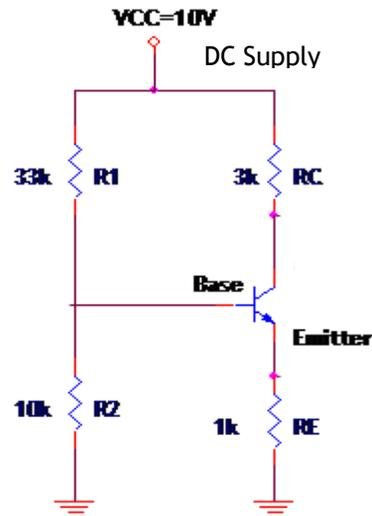

Fig. 4.2
1. Measure all resistor values (R_1 , R_2 , R_C and R_E) from circuit in Fig. 4.2 using DMM.
4. Construct circuit as of Fig. 4.2 and set $V_{CC} = 10$ V.